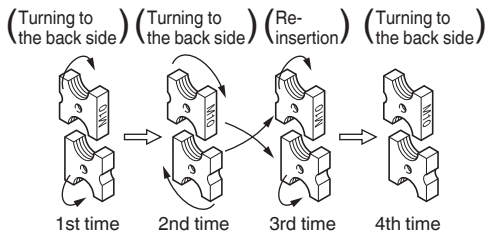

Fig. 19
- (3) Before attaching
- ① There are four edges on the cutter. As shown in **Fig. 19**, by changing the position of the edge it is possible to use the blade four times.